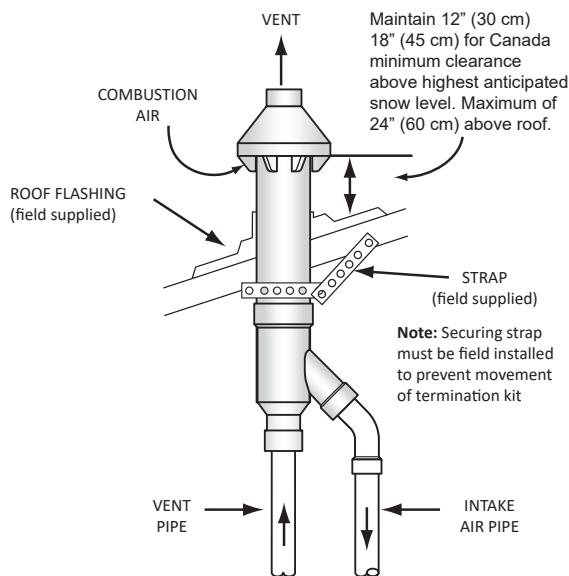

Figure 33. Installing Concentric Termination Assembly on a Roof
- Secure assembly to roof structure as shown in **Figure 33** using field-supplied metal strapping or equivalent support material.
Note: Ensure termination height is above the roof surface or anticipated snow level as shown in **Figure 33**.
- Cement water heater combustion air intake and vent pipes to concentric vent termination assembly. See **Figure 33** for proper pipe attachment.